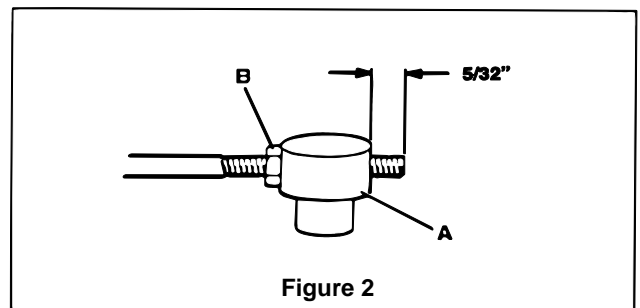

Figure 2
2. Thread the pivot (Figure 2, item A) onto the cable terminal until the threaded portion of the terminal protrudes 5/32" (5 threads). Secure the pivot by tightening the nut (Figure 2, item B).
*See Figure 2, item A